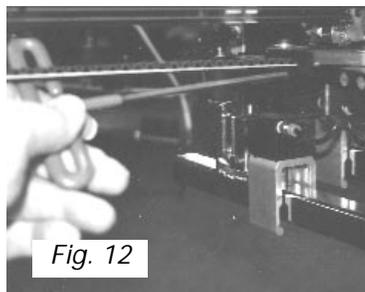

Fig. 12
- c. Adjust the 1/4" -20 x 1-1/4" allen head cap screw in clockwise direction to increase the tension on the timing belt. Generally, this will only be a slight adjustment, perhaps 1/4 to 1/2 turn of the screw. (See Fig. 12)